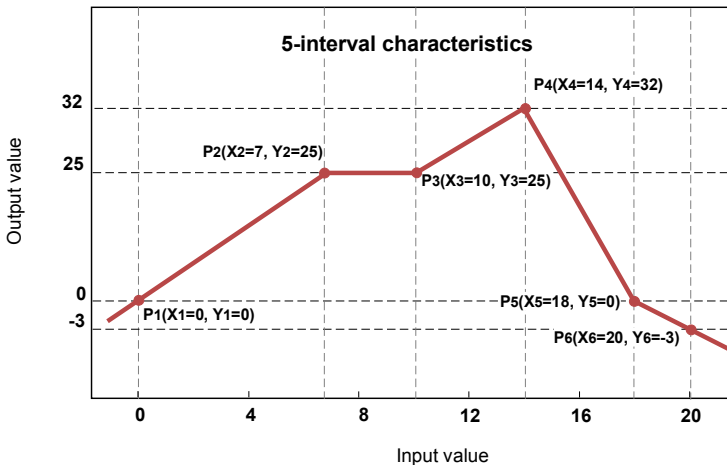

Fig. 7.34. Example of user characteristic
d) **user char.** - is defined as set of X-Y points. Number of the points is variable and may be set from 2 to 20 points which make linear segments (see **Fig. 7.34**). After choosing this option, parameter appears:
,where '**slope**' and '**offset**' are coefficients of a segment contained between two points (see Fig. 7.34), and **n** = 1, 2 .. is the number of the segment.
Steps to create a user characteristic consisting of 6 points (like on **Fig. 7.34**):